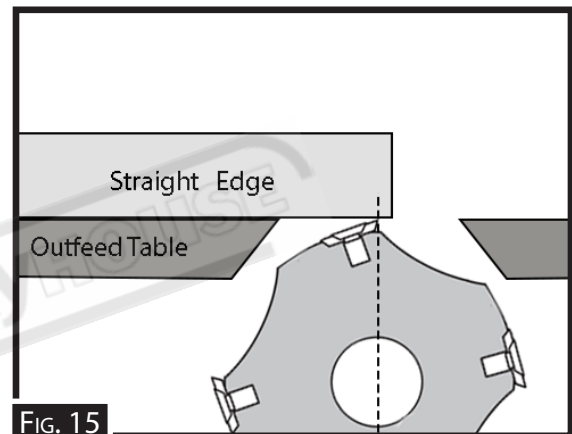

FIG. 15
10. Use a straight edge to realign out feed table with top of cutter edge. (Fig.15)